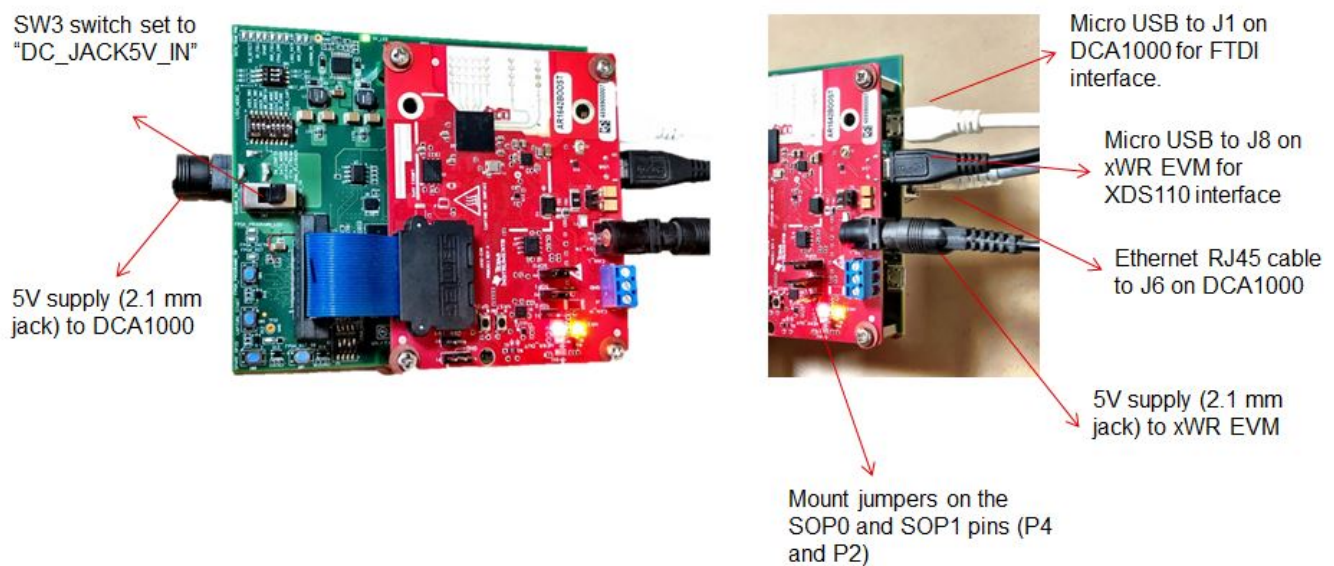

Figure 2. Data and Supply Cable Connections
2. Connect the microUSB and Ethernet cables to the PC interface, as shown in Figure 2. The DCA1000 and the xWR EVM are powered with 5-V, 2.5-A supplies.